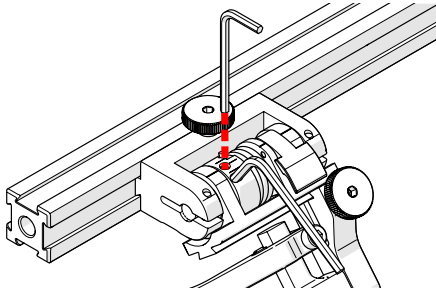

Fig. 78 - Insert hex wrenches
4. Place the 2 mm hex wrench into the force adjustment screw (Fig. 78).